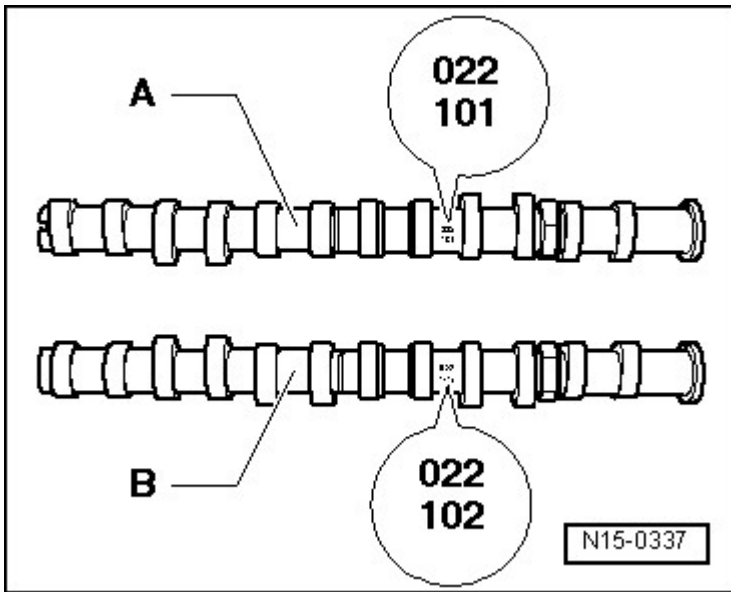

Fig. 12: Camshaft Identification, Valve Timing
- Identification, refer to **Fig. 12**
- Using the locking clamp, clip -item 15- onto the hydraulic adjusting element